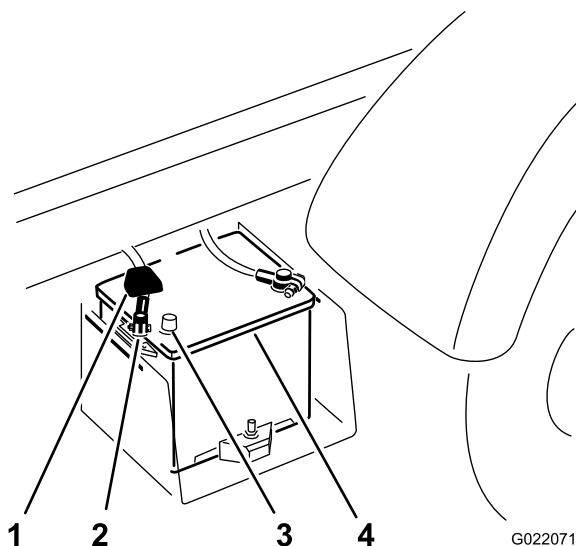

Figure 4
- C. Remove the terminal of the positive battery cable from the battery post (Figure 4).
1. Connect the positive battery cable to the battery (Figure 4); refer to Preparing to Install the Kit.